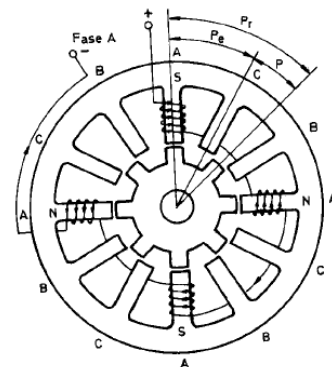

Figure 1
4. [1] When using stepper motors, it is common to refer to “phases, poles, step angle”. Based on the scheme (incomplete) presented on Figure 1 that refers to a particular type of stepper motor, identify: